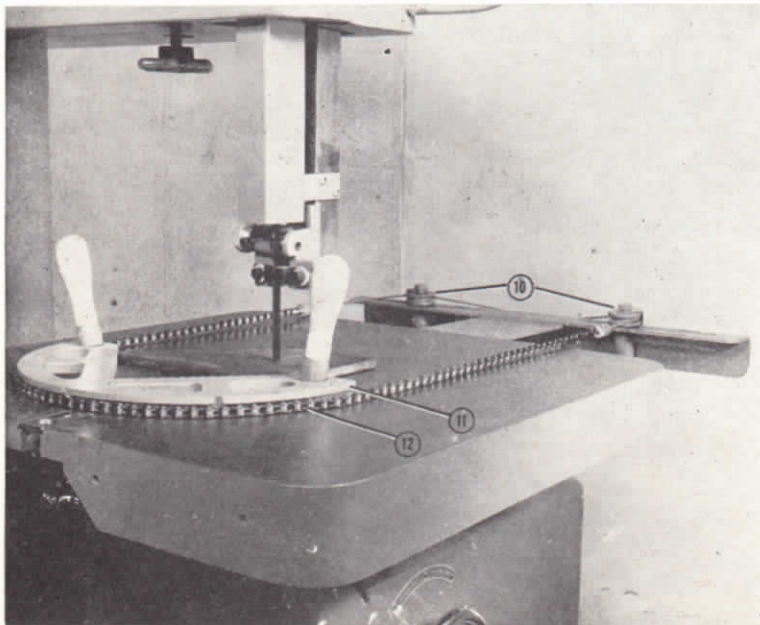

Fig. 7
POWER FEED OPERATION: To operate power feed, push foot pedal down until latched. Place material to be cut against feed block and push up to blade. The material does not have to be "squared" in relation to material guide. Fasten the chain hook, Part 87-615, to the chain 87-616, place chain in chain segments 87-609. The cables and chain can be adjusted for various sizes by adjusting the power feed wheels (10) Fig. 7 either in or out. The two power feed wheels can be adjusted independently. To change feed rate, move weight toward linkage to increase feed rate, toward hinge pin to decrease feed rate. Start the saw and release the latch on foot pedal.